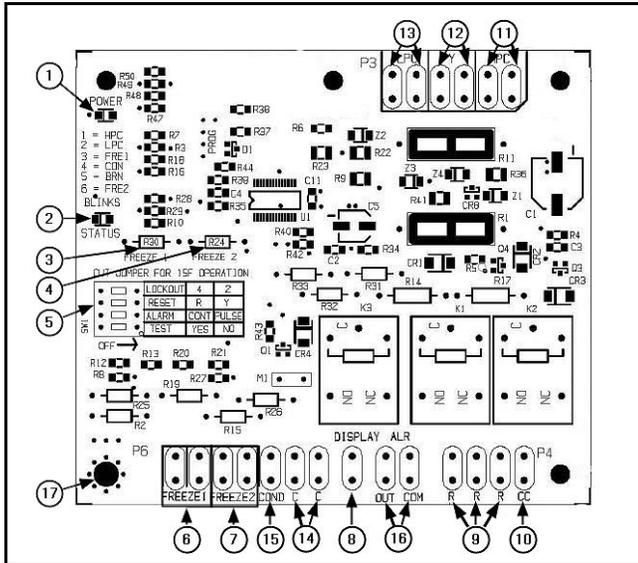
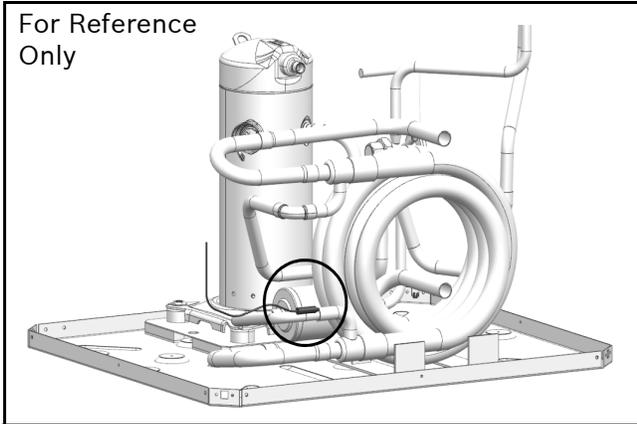

Fig. 9 UPM controller board
Fig. 10 Sensor location
When a malfunction light is used for diagnostic purposes, the connection is made at the dry contact connection terminals of the UPM board. Shown in Fig. 9.
- Water-side freeze protection sensor, mounted close to condensing water coil, monitors refrigerant temperature between condensing water coil and thermal expansion valve. If temperature drops below or remains at freeze limit trip for 30 seconds, the controller will shut down the compressor and enter into a soft-lockout condition. The default freeze limit trip is 26°F; however, this can be changed to 15°F by cutting the R30 or Freeze1 resistor located on top of DIP switch SW1 (Refer to Fig. 9, item [3] for resistor location), refer to Fig. 10 for sensor location.
- **FREEZE SENSOR:** The default setting for the freeze limit trip is 26°F (sensor number 1); however, this can be changed to 15°F by cutting the R24 resistor located on top of the DIP switch SW1. Since Freeze Sensor 2 is dedicated to monitor the load side coil it is recommended to leave the factory default setting on the board. The UPM controller will constantly monitor the refrigerant temperature with the sensor mounted close to the condensing water coil between the thermal expansion valve and water coil. If temperature drops below or remains at the freeze-limit trip for 30 seconds, the controller will shut the compressor down and enter into a soft-lockout condition. Both the status LED and the Alarm contact will be active. The LED will flash (3 times) the code associated with this alarm condition. If this alarm occurs 2 times (or 4 if Dip switch is set to 4) within an hour the UPM controller will enter into a hard-lockout condition. It will constantly monitor the refrigerant temperature with the sensor mounted close to the evaporator between the thermal expansion valve and evaporator coil as shown in Fig. 10. If temperature drops below or remains at the freeze limit trip for 30 seconds, the controller will shut the compressor down and enter into a soft-lockout condition. Both the status LED and the Alarm contact will be active. The LED will flash 6 times the code associated with this alarm condition. If this alarm occurs 2 times (or 4 if Dip switch is set to 4) within an hour the controller will enter into a hard-lockout condition.